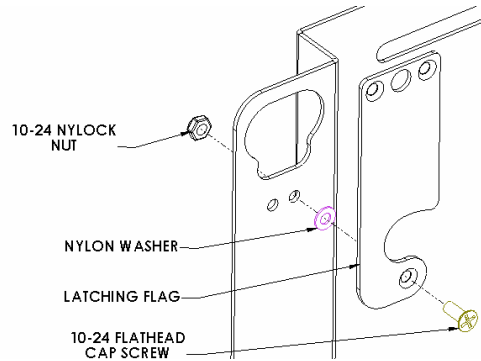

Figure 2
1. Attach latching flag to bracket (See Figure 2).